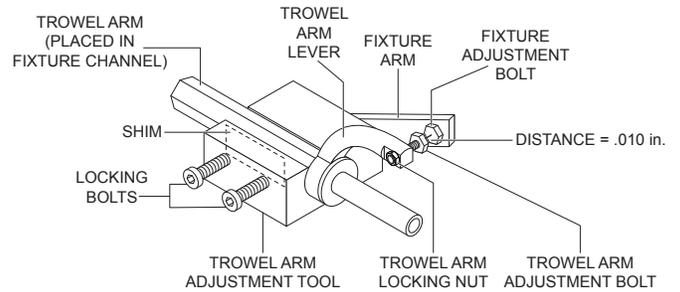

Figure 41. Trowel Arm Adjustment
3. Loosen the two locking bolts on the adjustment tool and place the trowel arm into the fixture channel (Figure 41). A thin shim may be required to cover the blade holes on the trowel arm. Be sure to align the trowel arm adjustment bolt with the fixture adjustment bolt.
4. Secure the trowel arm in place by tightening the adjustment tool locking bolts (Figure 41).
5. Loosen the locking nut on the trowel arm lever and turn the trowel arm adjustment bolt until it barely touches (.010") the fixture adjustment bolt. See Figure 41.
6. Tighten the locking nut to secure the adjustment bolt in place (Figure 41).